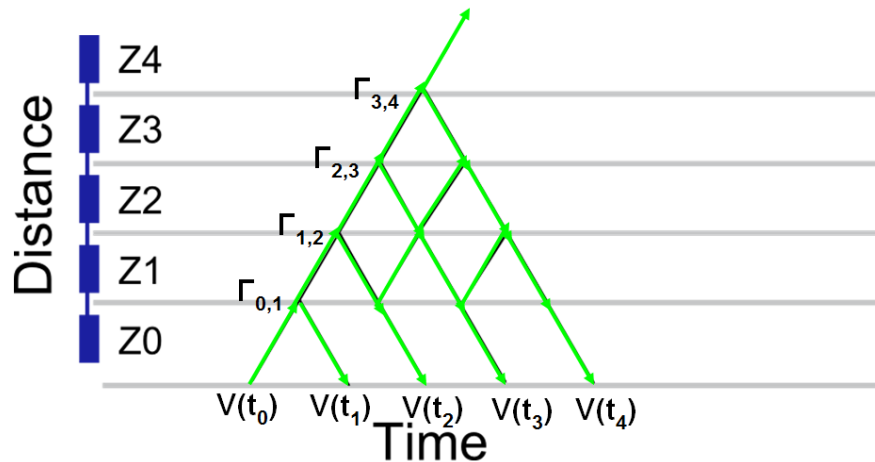
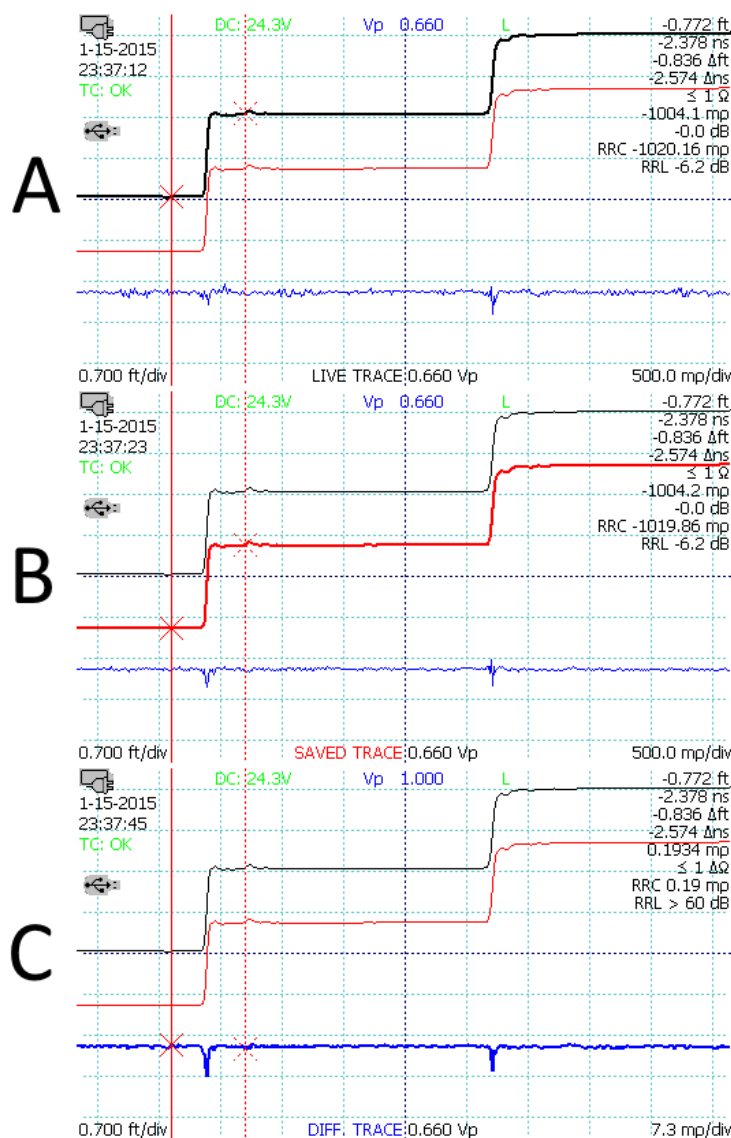

Figure 13: Layer peeling scattering diagram.
Figure 26: Working with traces.
As implemented in the CT100 (see Section 3.11.22 , the method iteratively examines the TDR waveform at each time step and attempts to correct for forward and backward signal propagation to extract impedance values at each time step. This is diagrammed in Figure 13 showing measured voltages  $v(t)$  taken from the TDR waveform and their relationship to actual reflection coefficients ( $\Gamma$ ) at time ( $t$ ) and impedance values ( $Z_x$ ) at different physical distances.
Press the *SELECT* button to change which trace is active. Figure 26 demonstrates this principle with three different traces. In Figure 13, screenshots show selection of (A) a live trace, (B) a scanned trace that has been translated vertically using the *VERTICAL POSITION* knob, and (C) a trace representing the difference between the two.